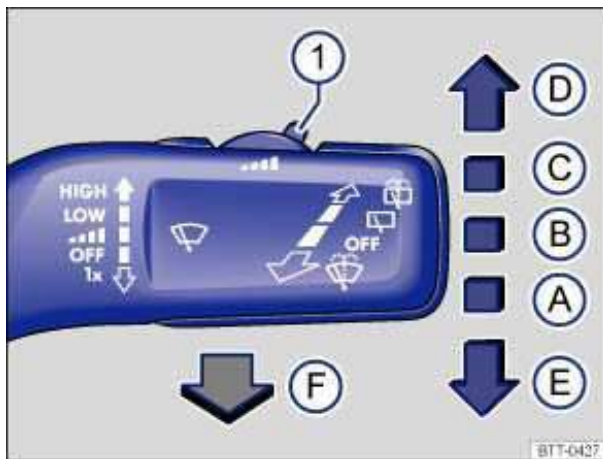

Fig. 90 Operating the front windshield wipers.
- Press the windshield wiper lever down briefly ⇒ fig. 90 \(E\) when the ignition is off.
Carefully fold the wiper arms back onto the windshield before driving! Switch the ignition on and press the windshield wiper lever down briefly ⇒ fig. 90 \(E\). The wiper arms move back to their original position.